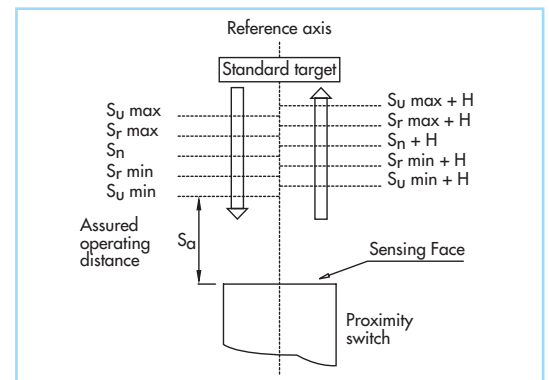

Fig. 1
The rated operating distance is a conventional quantity used to designate the operating distance. Manufacturing tolerances and external factors are not taken in account. In fig. 1 we can see the relation between the operating distance (S_n, S_r, S_u) and the hysteresis (H).